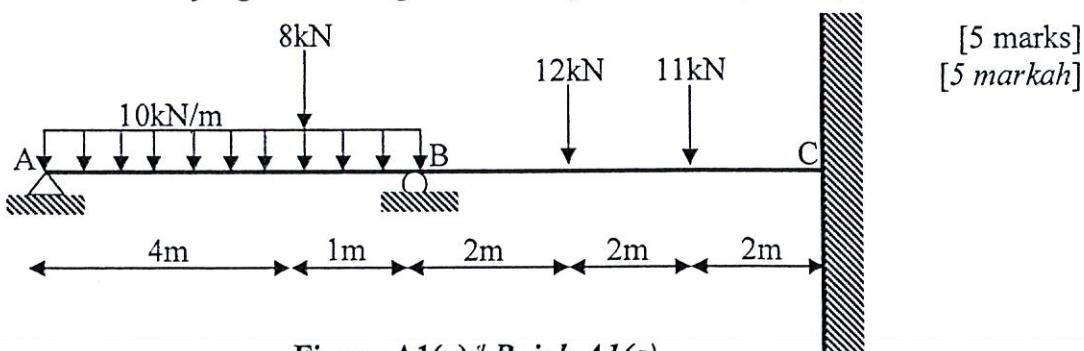

Figure A1(a) / Rajah A1(a)
- (c) Calculate the final moment for **Figure A1(b)** by using Moment Distribution Method (3 times of distribution) at point A, B and C. Given the value of Fixed End Moment (FEM) as shown below: